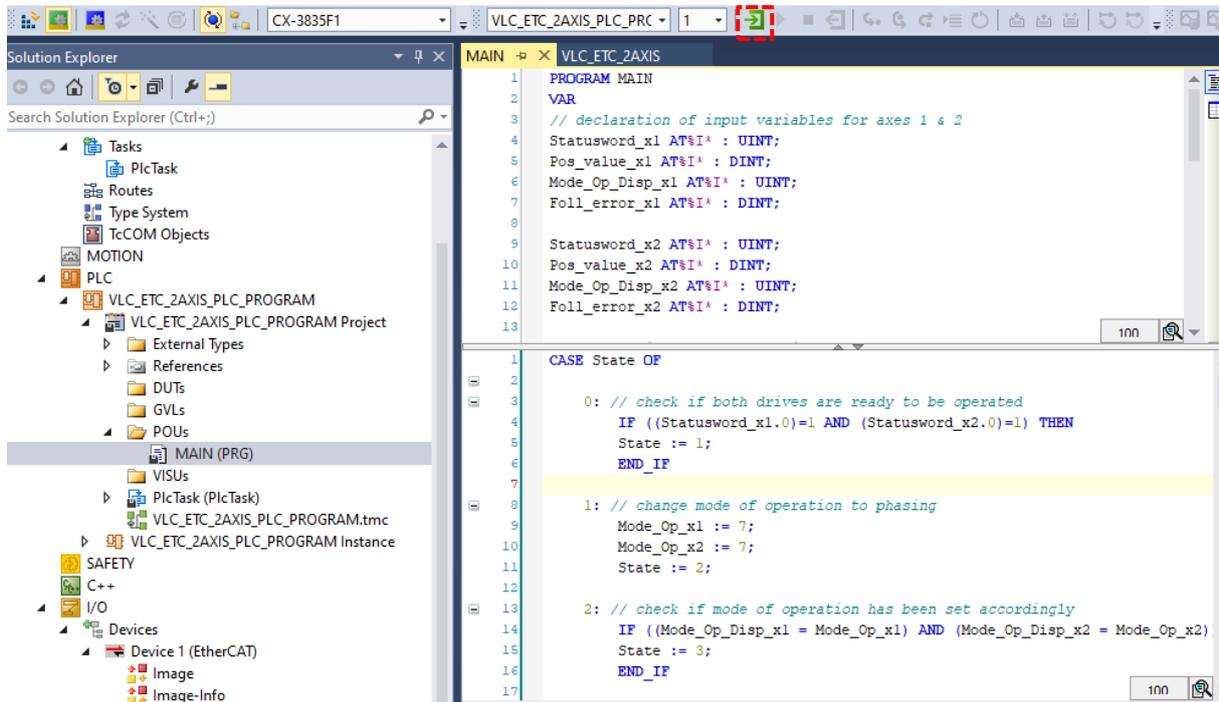

Figure 3.30.
- Click on the 'Login' icon highlighted in Figure 3.30, select Yes when there is a request to proceed with download